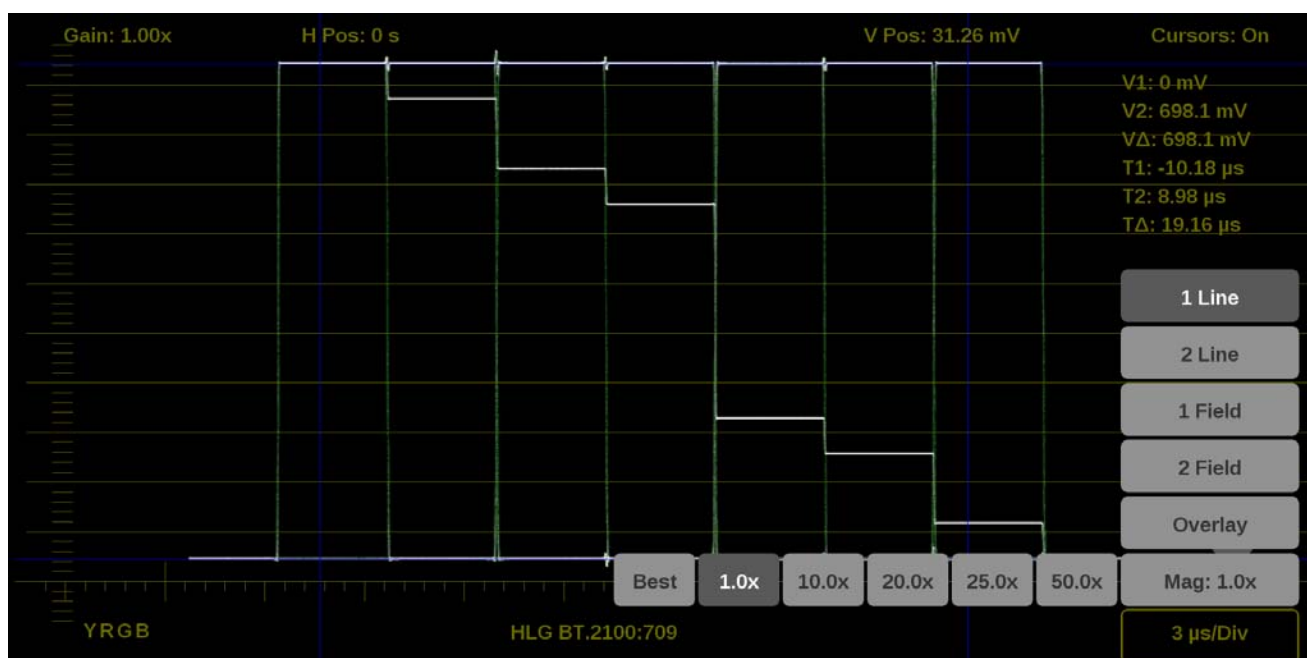

Figure 78: Waveform on-screen tools – display format
1. Touch the button in the bottom right corner of the application to expand the available display format options. (See Figure 78.)